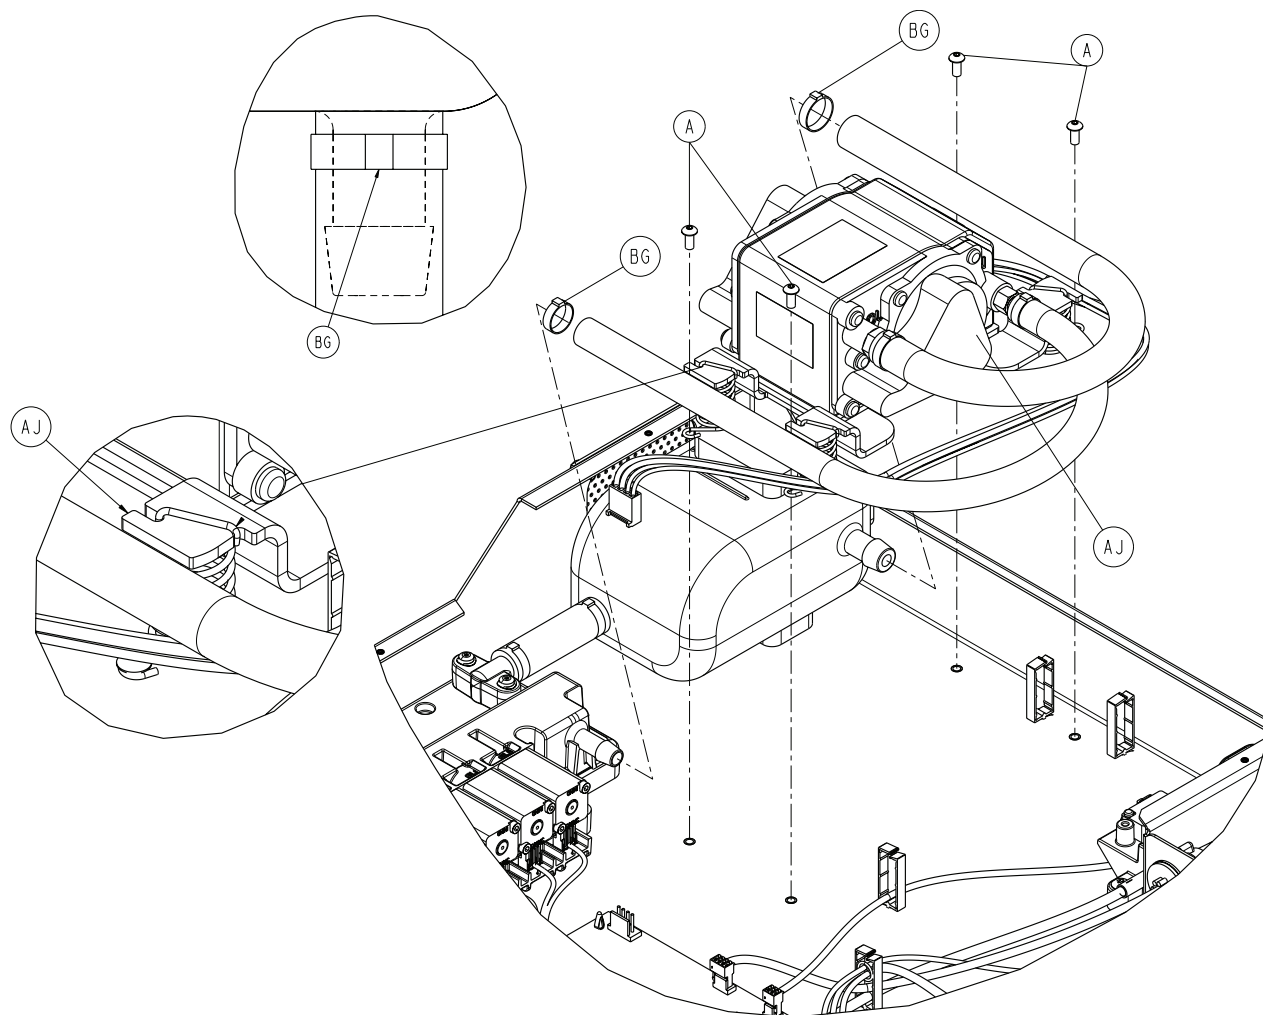

Figure 17 – Pump assembly
4. Using diagonal pliers, carefully cut the cable ties where the inlet hose connects to the manifold (BG) and the exhaust hose connects to the resonator (Figure 17). Do not cut the manifold barb.
5. Using a T15 Torx driver, remove the four screws (A) that secure the pump assembly (AJ) to the foot box (Figure 17). Save the screws.